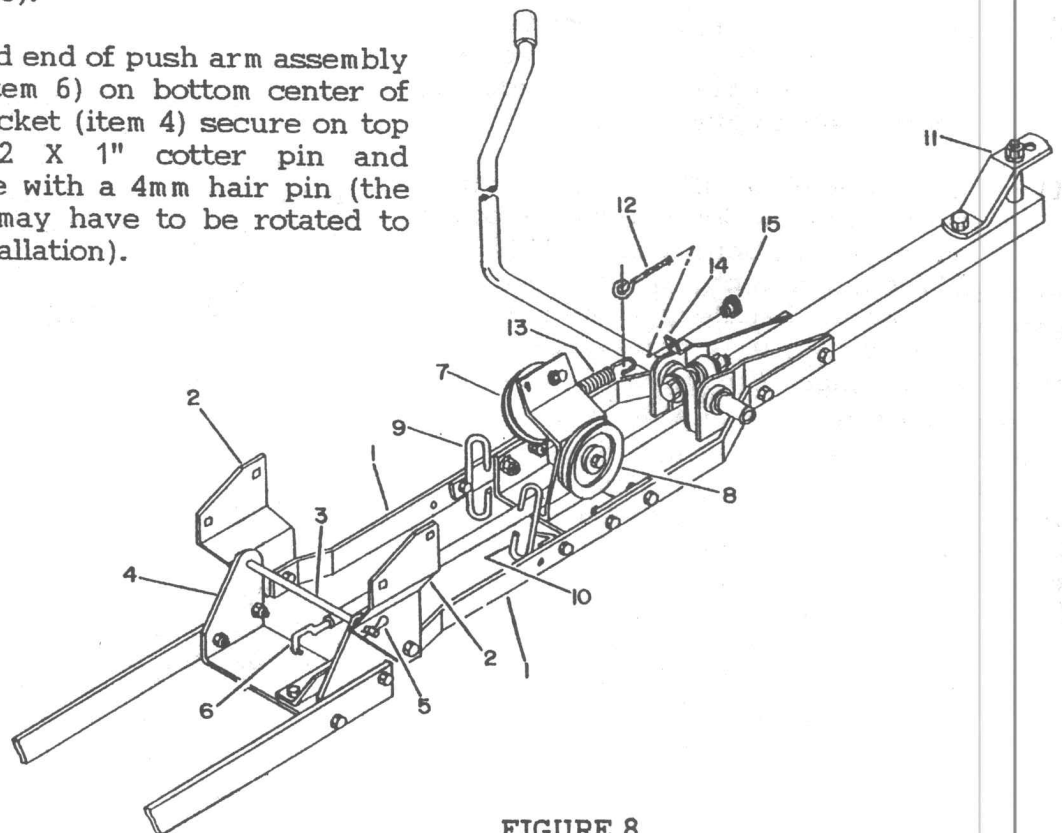
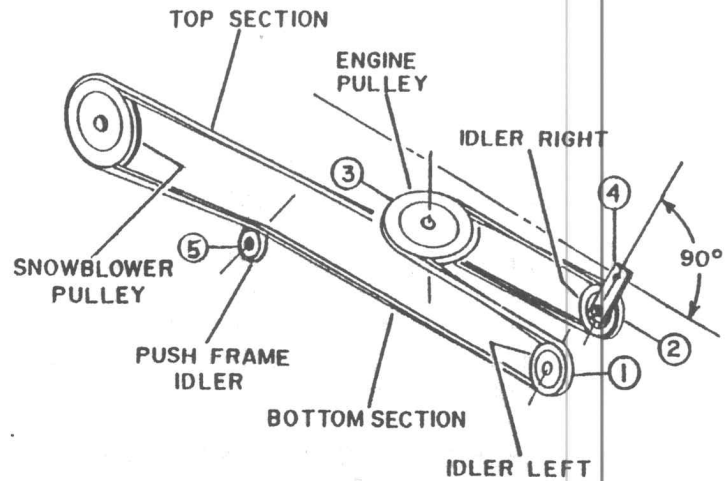

FIGURE 8
FIGURE 9
- j) Attach subframe flatbars (fig. 8, item 1) inside front support brackets (item 2) in lower holes using two 7/16 X 1 1/4" bolts, lockwashers and nuts. Do not tighten.
- k) Install a 5/32 X 1" cotter pin at one end of the 5/8 X 11 1/16" pin (fig. 8, item 3).
- l) Attach push frame (fig. 8, item 4) with snowblower to front support brackets (item 2) using the 5/8 X 11 1/16" pin (item 3). Secure pin using 4mm hair pin (item 5).
- m) Install rod end of push arm assembly (fig. 8, item 6) on bottom center of pivot bracket (item 4) secure on top with 5/32 X 1" cotter pin and underside with a 4mm hair pin (the rod end may have to be rotated to allow installation).
- n) Route the snowblower drive belt in the subframe by placing flat side of bottom belt section on idler (fig. 9, item 5), belt sections inside belt guide, inside subframe belt guide (fig. 8, item 9-10) around "V" idlers (fig. 8, item 7-8) or (fig. 9, item 1-2).
- b) Attach rear hitch (fig. 8, item 11) to tractor tow hitch using bolts already installed, with flatwasher, lockwasher and nut on top of tractor tow hitch. Don't tight yet.
- f) Route the V-belt around tractor pulley (fig. 9, item 3) (the left bottom section of the belt is not twisted).
- h) **Tractor with electric PTO clutch:** Place eyelet end of eyebolt (fig. 8, item 12) on free end of spring (item 13), place threaded end through welded bracket (item 14) on right hand side lift support and thread plastic knob (item 15) on eyebolt. The belt guide (fig. 12, item 1 and fig. 8, item 9-10) is not necessary on tractor equipment with electric PTO clutch.
- i) **Belt Adjustment With Manual Clutch:** With the clutch mechanism is engaged position, and the snowblower in raised position, the pulley lever (fig. 9, item 4) must be approximately 90° with the subframe, and the spring lengthened 3/4 to 7/8". If it is not like this, adjust the belt tension using the left adjustable idler pulley (item 1). Disengage the clutch, loosen the middle bolt, slide the idler in the slot and retighten the bolt. Make sure that with the spring at 3/4 to 7/8" length, the pulley lever angle is approximately 90° to the subframe.
Raise the snowblower. With the adjustment knob (fig. 8, item 15), adjust the spring length (item 13) to approximately 3/4 to 7/8". The pulley lever (fig. 9, item 4) must be approximately 90° to subframe. If it is not like this, loosen the spring by on screw the knob and slide the left idler pulley (item 1) by loosening the middle bolt, then sliding the idler in the slot, and then retightening the bolt. Check to be sure that with the spring lengthened to 3/4 to 7/8", the pulley lever angle is approximately 90° to the subframe.